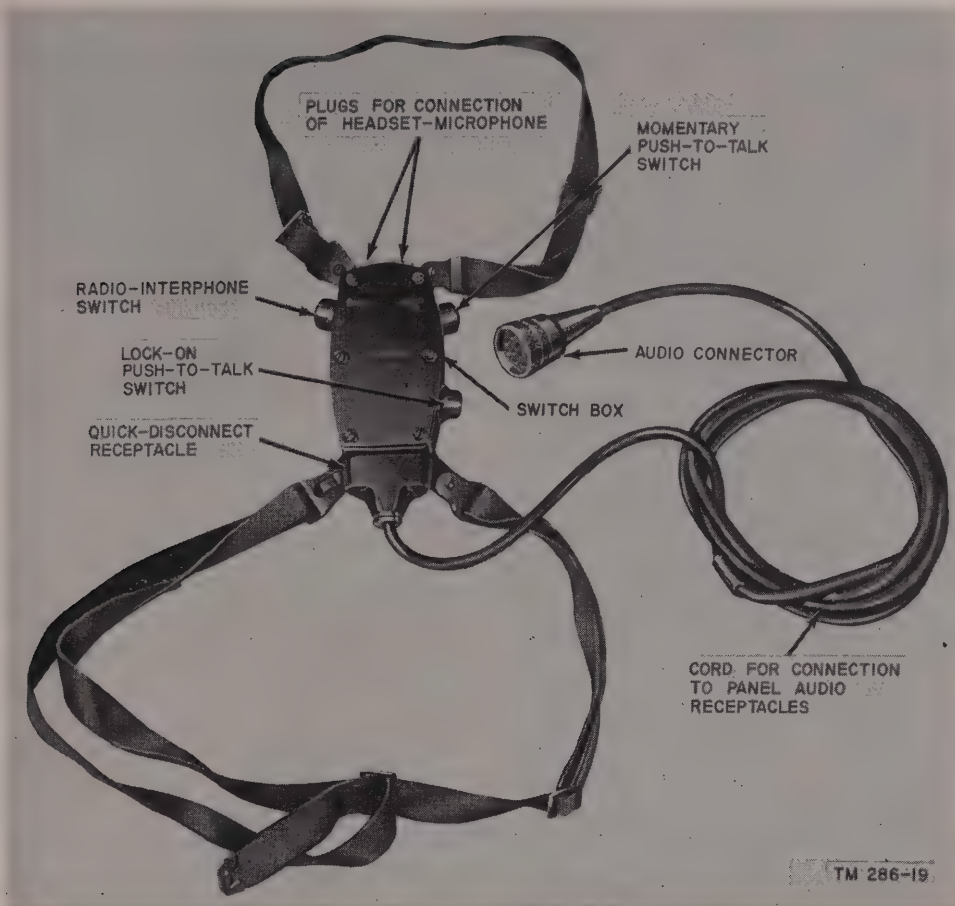

Figure 12. Chest Set Group AN/GSA-6.
- (1) Chest Set Group AN/GSA-6 and Headset-Microphone H-63/U.
- (2) Dynamic Loudspeaker LS-166/U.
- (3) Handset H-33/PT.
- (4) Microphone M-29/U.
- (5) Headset Navy type CW-49507 and Headset Cord CX-1334/U.
*b. Chest Set Group AN/GSA-6.* Chest Set Group AN/GSA-6 (fig. 12), in conjunction with Headset-Microphone H-63/U (*c* below), is the audio accessory most commonly used with the radio sets. This chest set is superior to the earlier Chest Set TD-4. It may connect to any audio connector in the radio set. Also, with this chest set, the RADIO TRANS. switch on Control Box C-375/VRC may be locked at RADIO TRANS. and still allow an operator to transmit or speak over the interphone without operating the RADIO TRANS. switch. The chest set group consists of a chest-mounting switch box and a 5-foot cord which terminates in an 8-contact connector on one end and